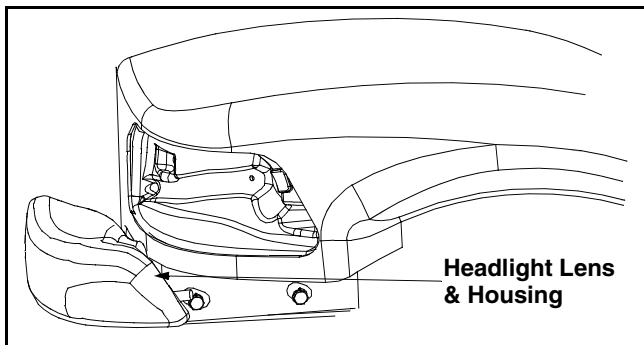

Figure 15
- Remove the headlight lens and housing from the front. The lens and the housing are connected. See Figure 15.